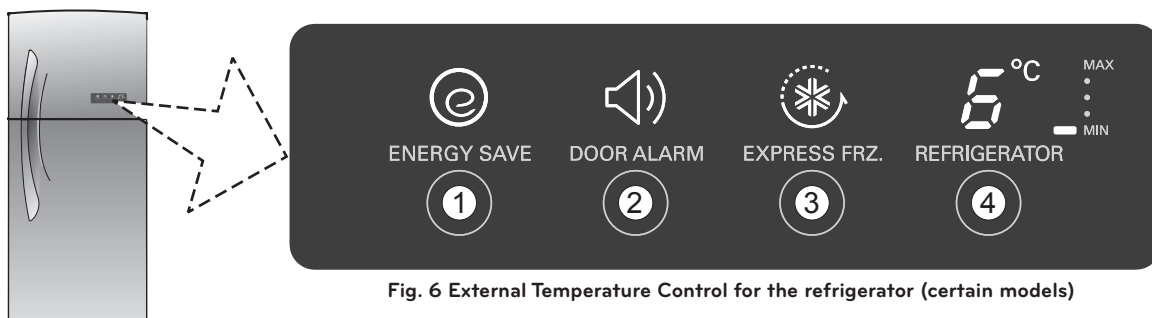

Fig. 6 External Temperature Control for the refrigerator (certain models)
- **Refrigerator:** Monitors the refrigerator temperature. External temperature control, Fig. 6, (certain models).